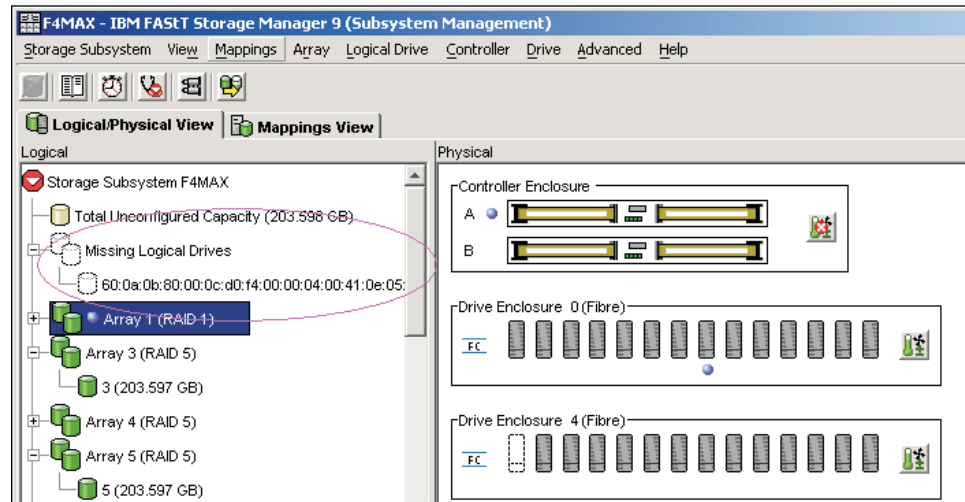

Figure 24. Subsystem Management Logical/Physical View of missing logical drives (controller firmware prior to 7.xx.xx.xx)
- If the controller firmware is earlier than 7.xx.xx.xx, wait for DS Storage Manager to mark the arrays/logical drives as missing in the Storage Subsystem Management window. See Figure 24 on page 67.